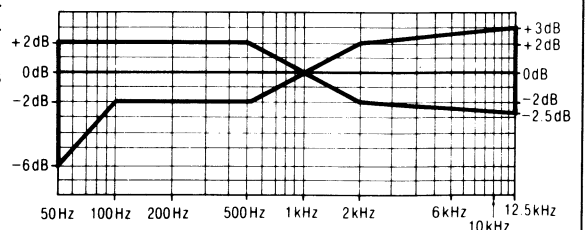
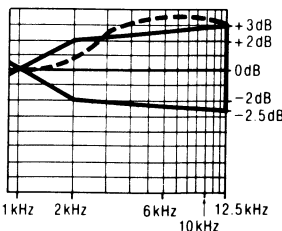
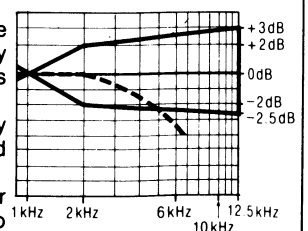

Fig. 11
Fig. 12
Fig. 13
6. Playback the signals recorded in step 6, and check if the frequency response curve is within the limits shown in the overall frequency response chart for normal tapes (fig. 11).
When the curve exceeds the overall specified frequency response chart (fig. 11) as shown in fig. 12.
- 2) Repeat steps 5 and 6 for confirmation (Proceed to steps 7, 8 and 9 if the curve is now within the charted specifications as shown fig. 11.)
- 3) If the curve still exceeds the specifications (fig. 11), increase bias current further and repeat steps 5 and 6.
When the curve falls below the overall specified frequency response chart (fig. 11) as shown in fig. 13.
- 3) If the curve still falls below the charted specifications (fig. 11), reduce bias current further and repeat steps 5 and 6.